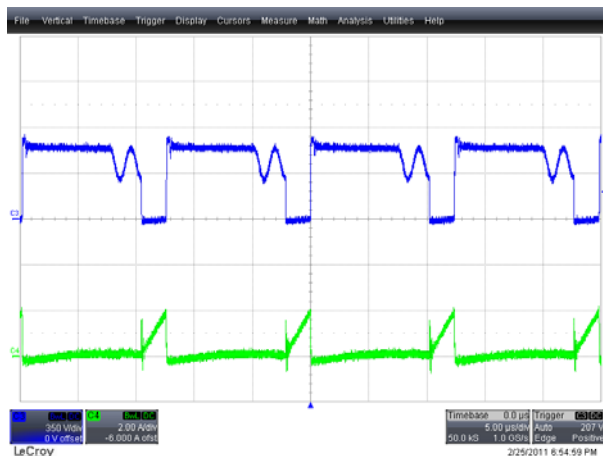
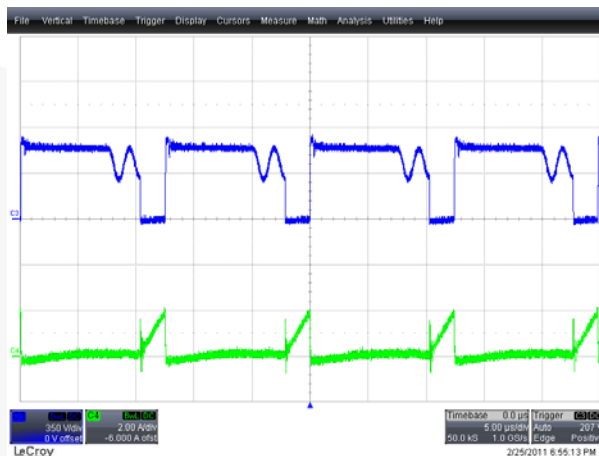

Figure 39. 90V_{AC} / 60Hz, CH3 (Blue): $V_{DS}(QR)$, CH4 (Green): $I_{DS}(QR)$
Figure 40. 277V_{AC} / 60Hz, CH3 (Blue): $V_{DS}(QR)$, CH4 (Green): $I_{DS}(QR)$
Figure 39 and Figure 40 show the V_{DS} and I_{DS} waveforms of the MOSFET (QR) at different input voltage conditions.